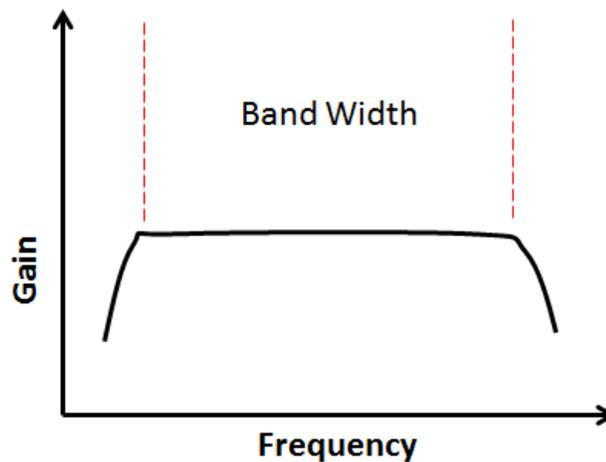

Figure 4: Graph of voltage gain vs frequency
8. Note down the observation in table no. 3 and plot a graph between Voltage Gain vs Frequency as shown in Figure 4.